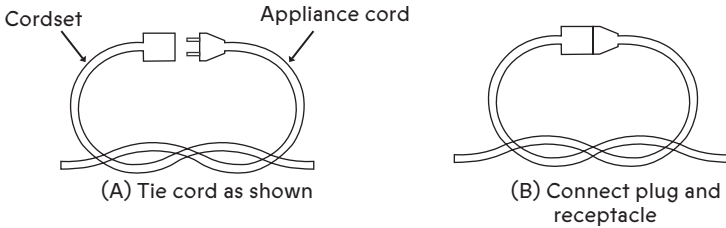

FIG. 1
To reduce the risk of disconnect of tool from the extension cord during operation. Make a knot as shown in Fig. 1
- 9) **Extension Cord** - Make sure your extension cord is in good condition. When using an extension cord, be sure to use one heavy enough to carry the current your product will draw. An undersized extension cord will cause a drop in line voltage resulting in loss of power and overheating. The table on page 2 shows the correct size to use depending on cord length and nameplate ampere rating. If in doubt, use the next heavier gauge. The smaller the gauge number, the heavier the cord. To reduce the risk of disconnection of appliance cord from the extension cord during operating: Make a knot as shown in Figure 1; use one of the plug-receptacle retaining straps or connectors described in this manual on page 3.